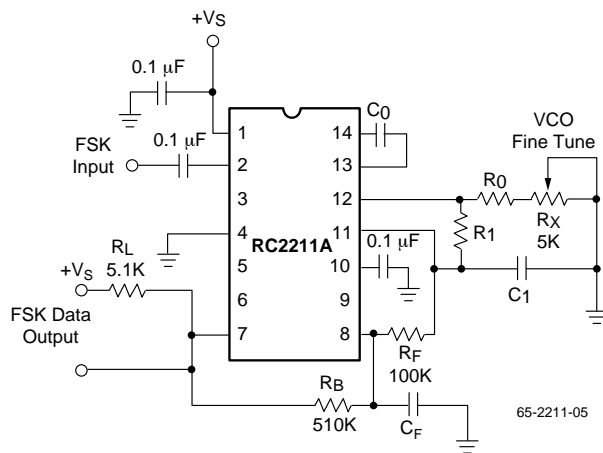

Figure 2. Circuit Connection for FSK Decoding
Figure 2 shows the basic circuit connection for FSK decoding. With reference to Figures 1 and 2, the functions of external components are defined as follows:  $R_0$  and  $C_0$  set the PLL center frequency,  $R_1$  sets the system bandwidth, and  $C_1$  sets the loop filter time constant and the loop damping factor.  $C_F$  and  $R_F$  form a one pole post-detection filter for the FSK data output. The resistor  $R_B$  (510 k $\Omega$ ) from pin 7 to pin 8 introduces positive feedback across FSK comparator to facilitate rapid transition between output logic states.
Table 1. Recommended Component Values for Commonly Used FSK Bands (see Circuit of Figure 2)
The circuit of Figure 2 can be tailored for any FSK decoding application by the choice of five key circuit components:  $R_0$ ,  $R_1$ ,  $C_0$ ,  $C_1$  and  $C_F$ . For a given set of FSK mark and space frequencies,  $F_1$  and  $F_2$ , these parameters can be calculated as follows:
**Note:** All calculated component values except  $R_0$  can be rounded off to the nearest standard value, and  $R_0$  can be varied to fine-tune center frequency through a series potentiometer,  $R_X$  (see Figure 2).